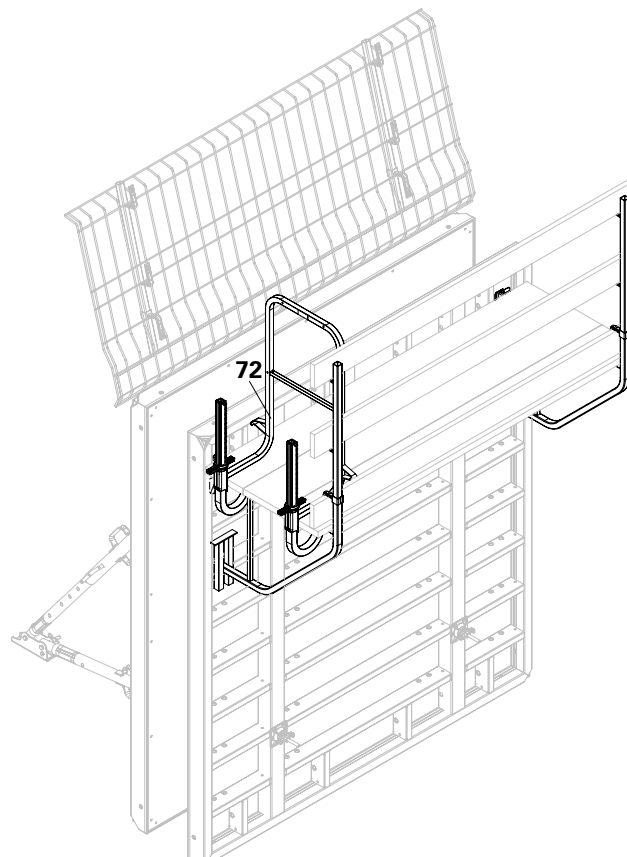

Fig. A13.21
4. Attach side protection, e.g. End Guardrail Frame 55 (72). (Fig. A13.21)